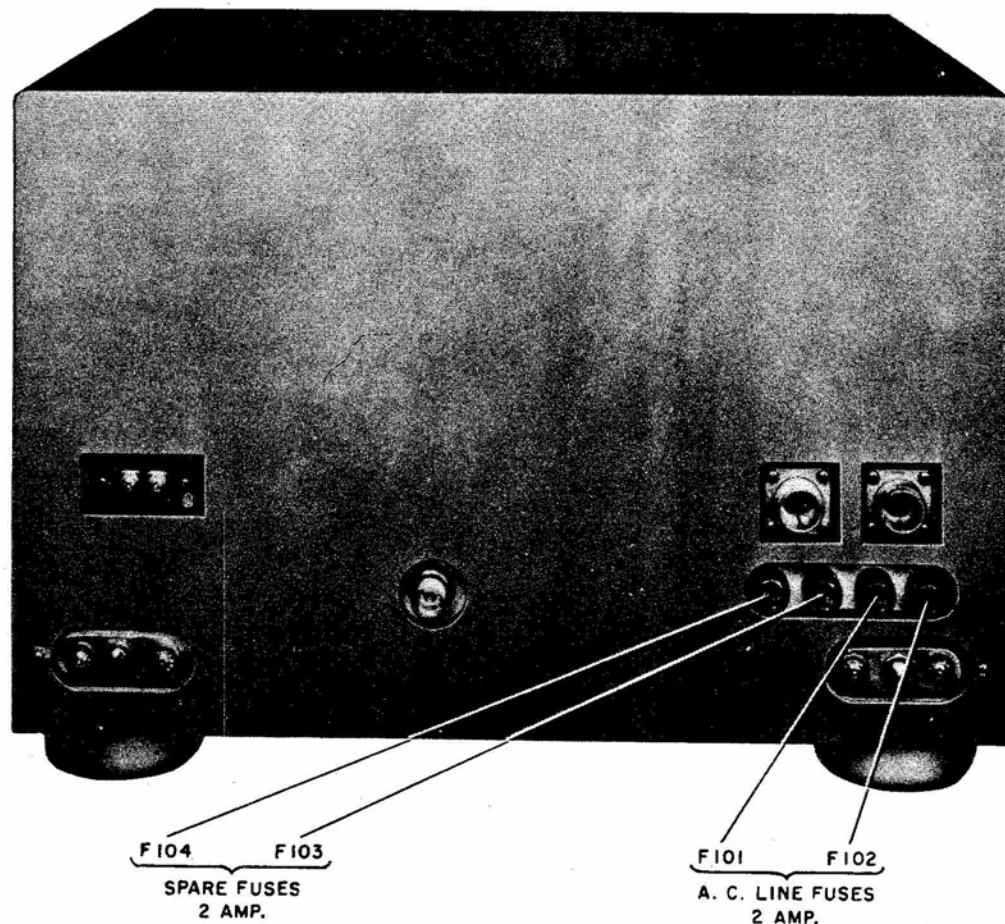

Figure 5-2. Fuse Locations
b. **FUSE REPLACEMENT.** (See Figure 5-2.)—If the receiver is inoperative and the channel indicator pilot lamps are not lighted, check the receiver fuses F-101 and F-102. Fuses F-101 and F-102 are two-ampere fuses and are mounted with two spares, F-103 and F-104, at the rear of the receiver. Probable cause of fuse failure is a short-circuit in the primary of the power transformer, the filament circuit or the B-plus circuit.